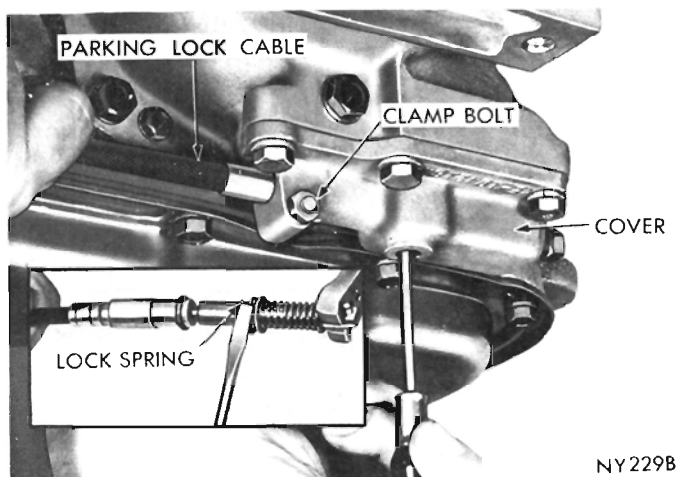

Fig. 27—Removing Parking Lock Cable
(1) Loosen the parking lock cable clamp bolt where the cable enters the housing cover (Fig. 27). Tap the end of the clamp bolt lightly to release its hold on the cable. Remove the housing cover lower plug.
(2) With a screw driver inserted through the plug opening, push gently against the projecting portion of the cable lock-spring, then withdraw the lock cable.